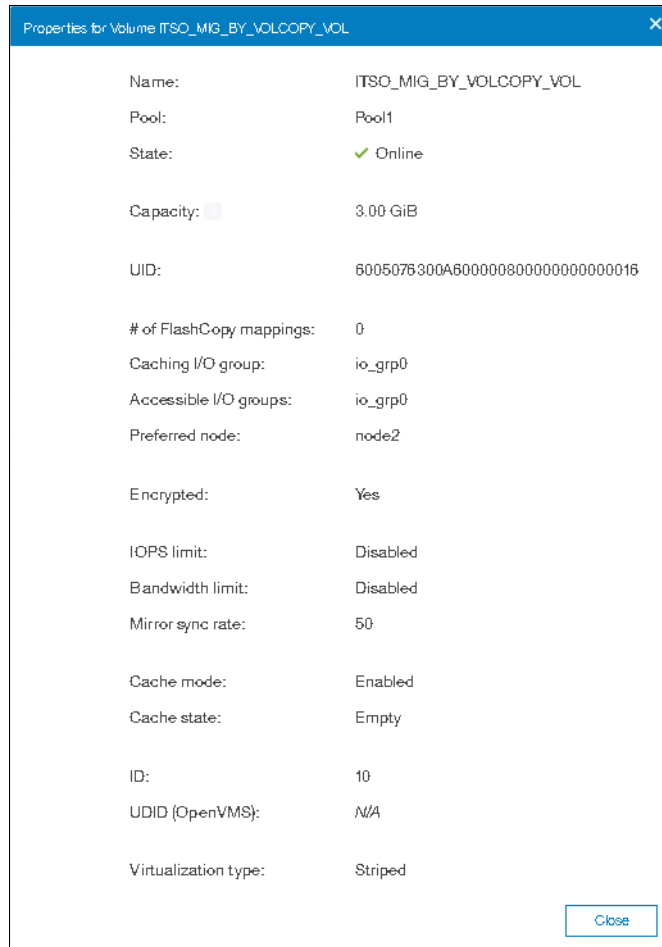

Figure 6-64 Verifying the new copy in the target storage pool
7. Ensure that the new copy is in the target storage pool as shown in Figure 6-64 on page 317.